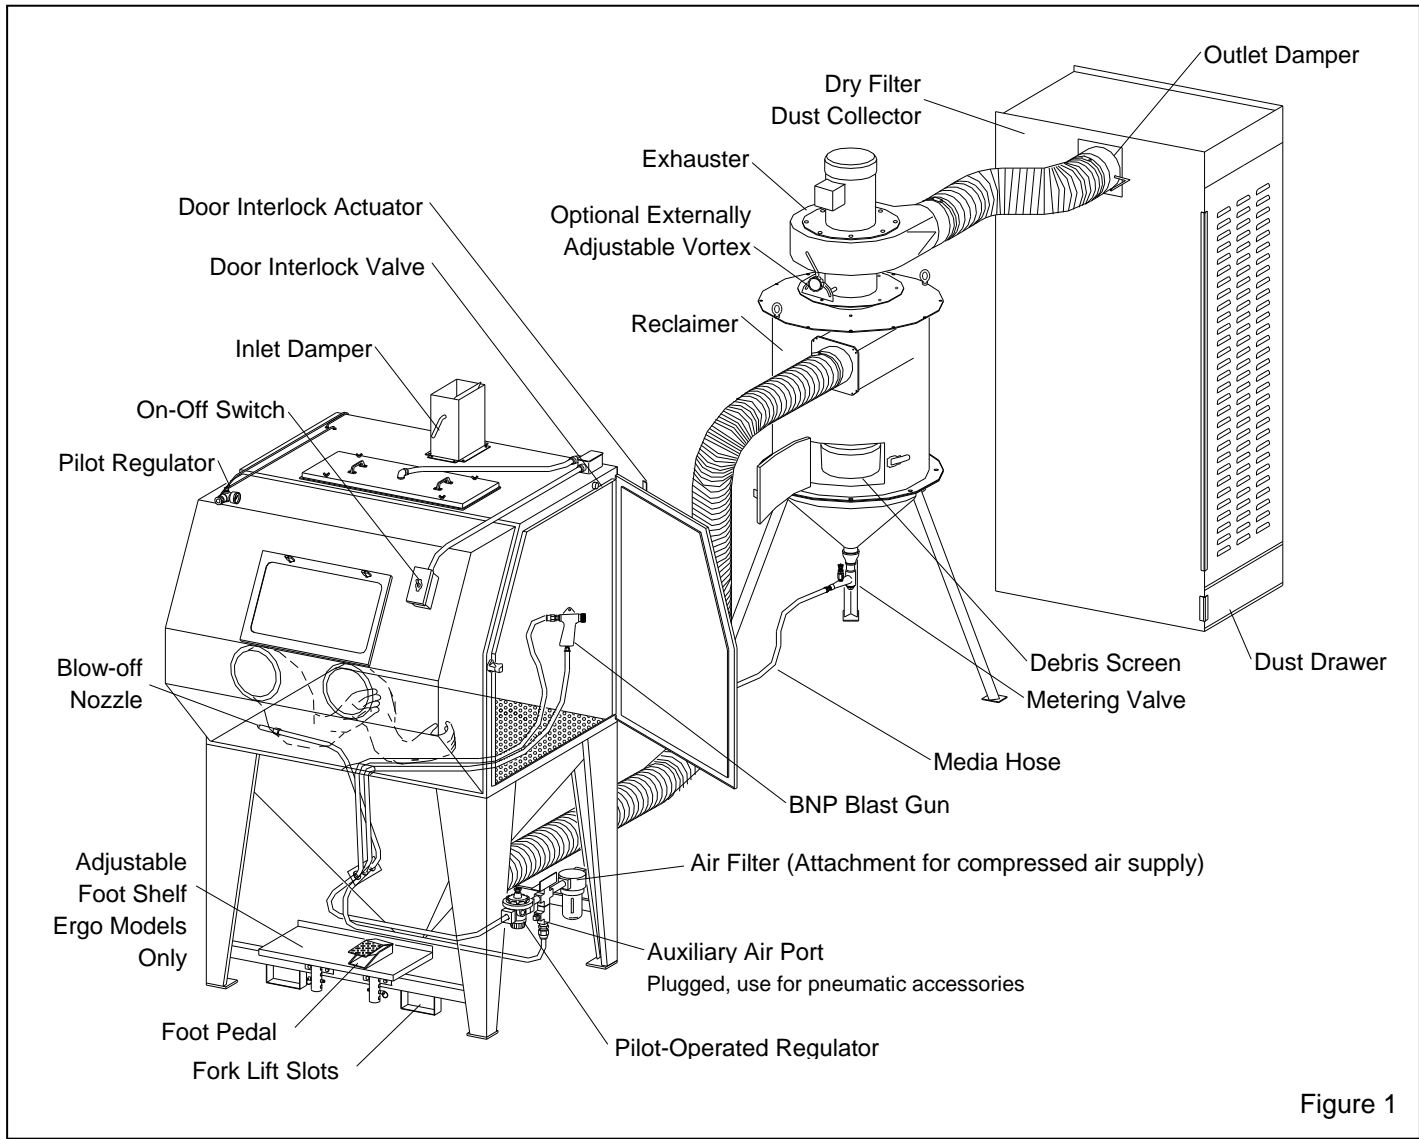
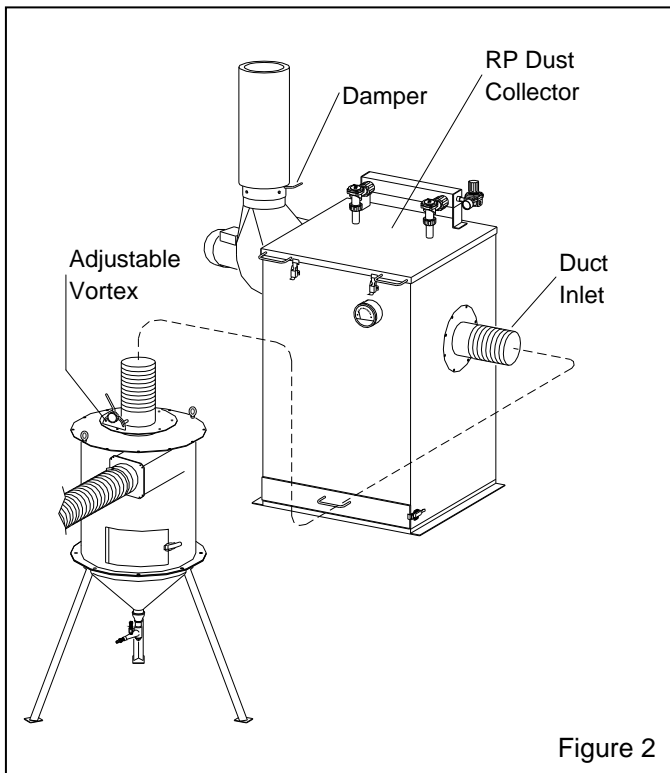

Figure 1
Figure 2
Refer to Figure 1 for arrangement of components with a dry filter. When a simple dust bag is used (not available with 900 cfm reclaimers), it attaches directly to the reclaimer exhaust outlet in place of the flex hose. The illustration shows a free-standing 900 reclaimer; 300 and 600 reclaimers are mounted on the back of the cabinet. Figure 2 shows the arrangement with an RPC-2 reverse-pulse dust collector with dust drawer. The optional RPH-2 is set up the same way but includes a hopper that is easier to empty and has additional storage. Upgraded, RPH collector may be added at any time.
2.1.1 See Figure 1 (and Figure 2 for optional reverse-pulse collector) for the general arrangement. Place all components in a convenient location where compressed air and electrical service are available. The cabinet location must comply with OSHA and local safety codes. Allow for full access to all doors and service areas, and for efficient handling of large parts. Provide enough